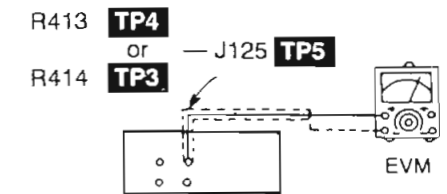

Fig. 3
- Connect the measuring instrument as shown in Fig. 3.